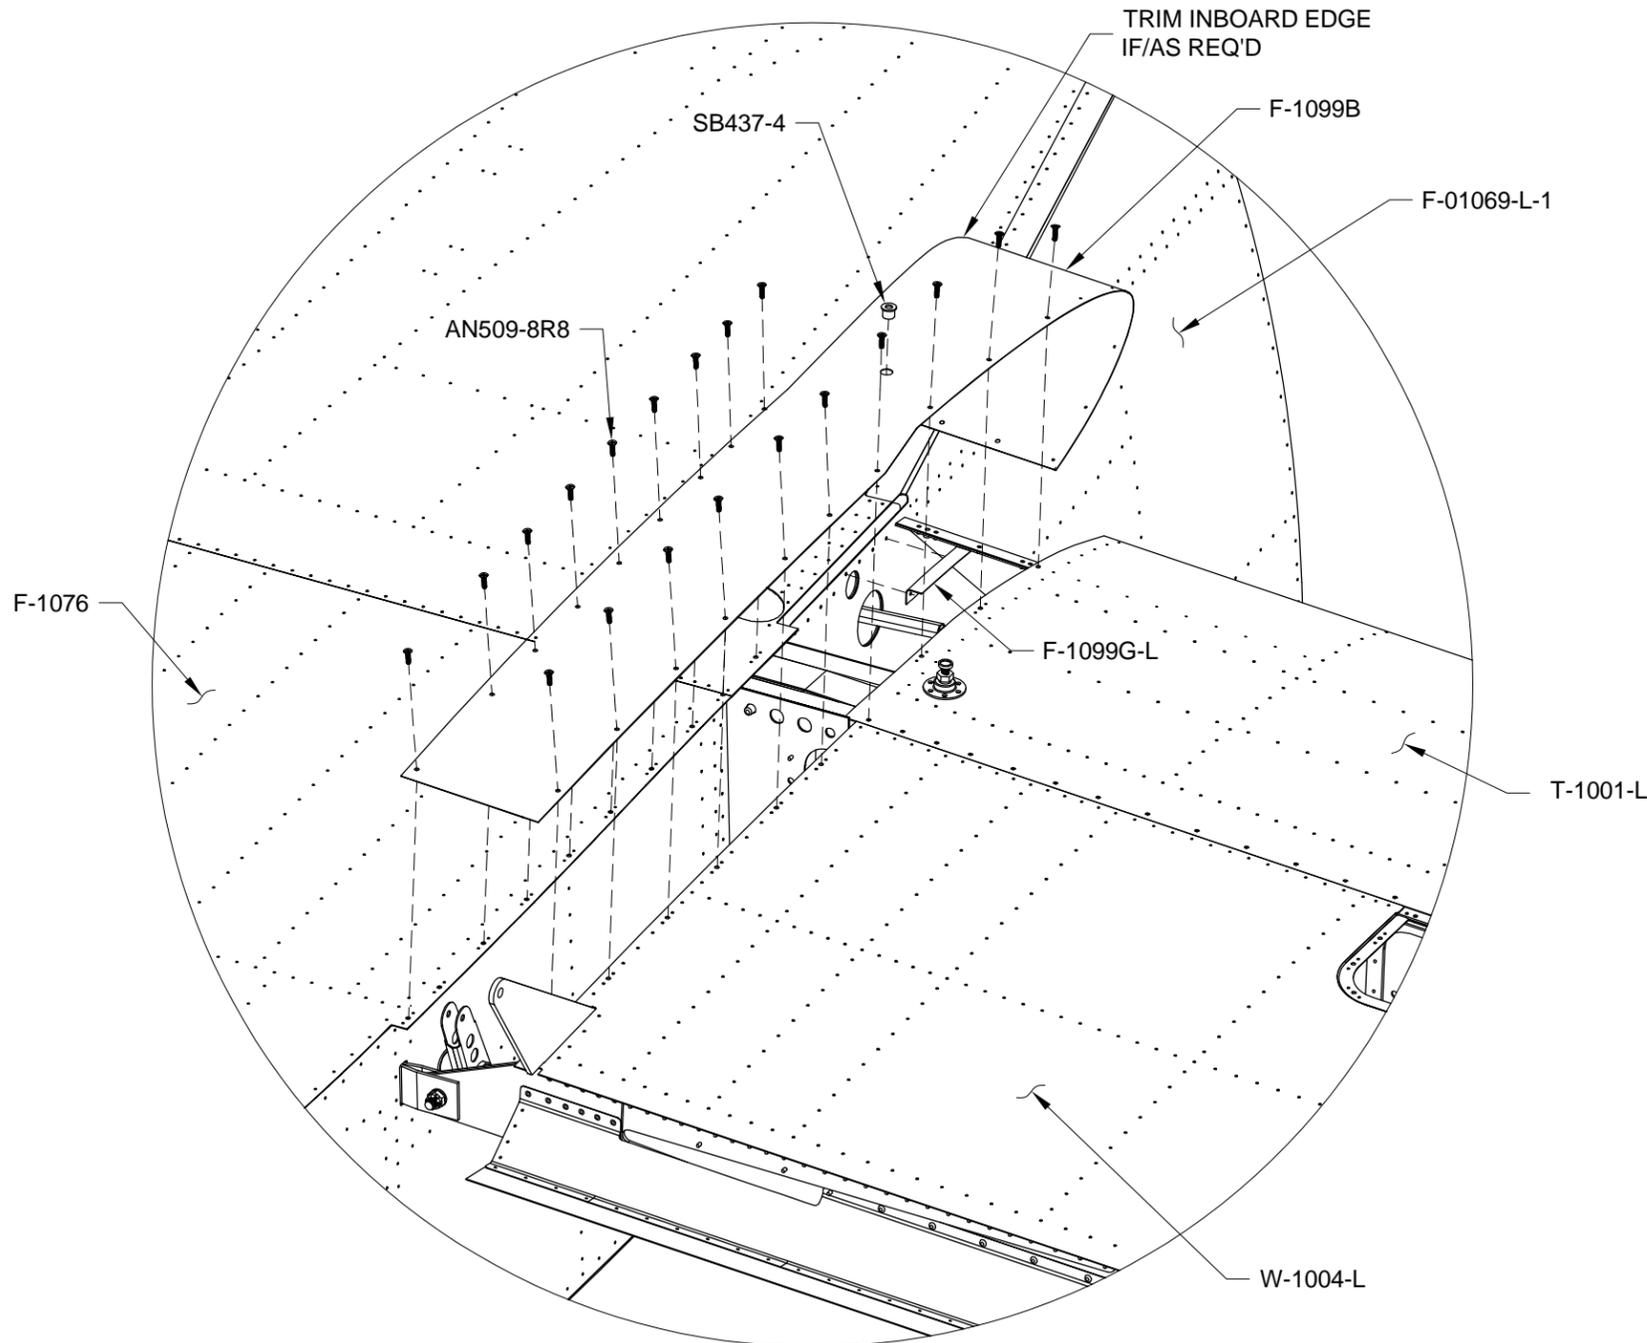

FIGURE 1:
Install a snap bushing into the lower wing root fairing as shown in Figure 1.
Step 3: Attach the F-1099B Lower Wing Root Fairing to the T-1005B Shim, T-1001-L Fuel Tank Skin, F-1076 Center Bottom Skin, and to the W-1004-L Bottom Inbd. Wing Skin with the hardware shown in Figures 1 and 2.